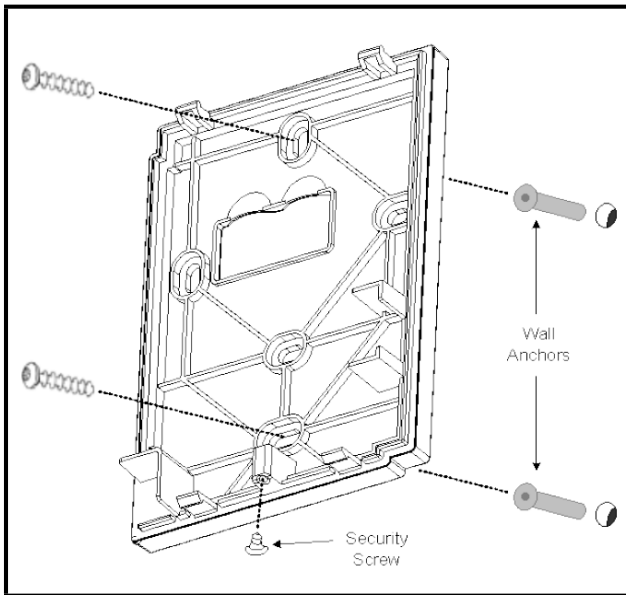
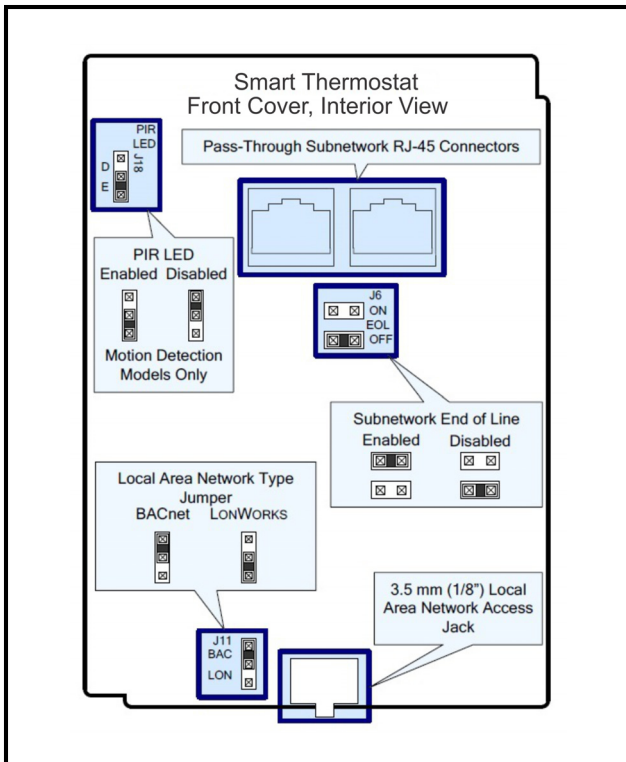

Figure 2-10 - Smart Thermostat Mounting - Device Components
Figure 2-11 - Connector and Jumper Locations
1. Remove the security screw from the device (*Figure 2-10*).
2. Open the device by pressing in the two (2) tabs on the bottom of the device and pulling the bottom side of the front plate out.
11. Set any jumpers. See *Figure 2-11*.